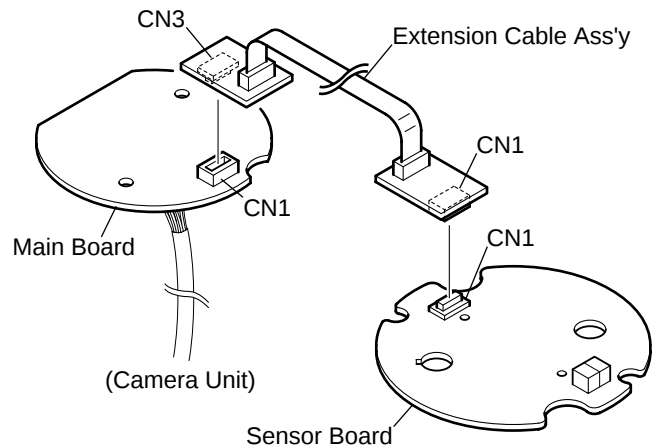

Fig. 2-6
- Referring to Fig. 2-6, connect the Connector CN1 on the Extension Cable Ass'y to CN1 on the Sensor Board.